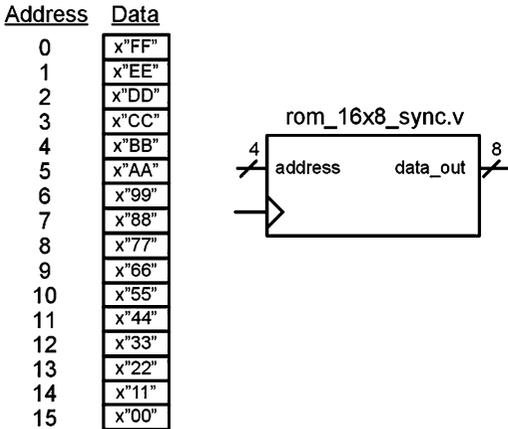

Fig. 10.3
- 10.2.2 Design a Verilog model for the 16×8 , synchronous, read-only memory system shown in Fig. 10.3. The system should contain the information provided in the memory map. Create a test bench to simulate your model by reading from each of the 16 unique addresses and observing data_out to verify it contains the information in the memory map.